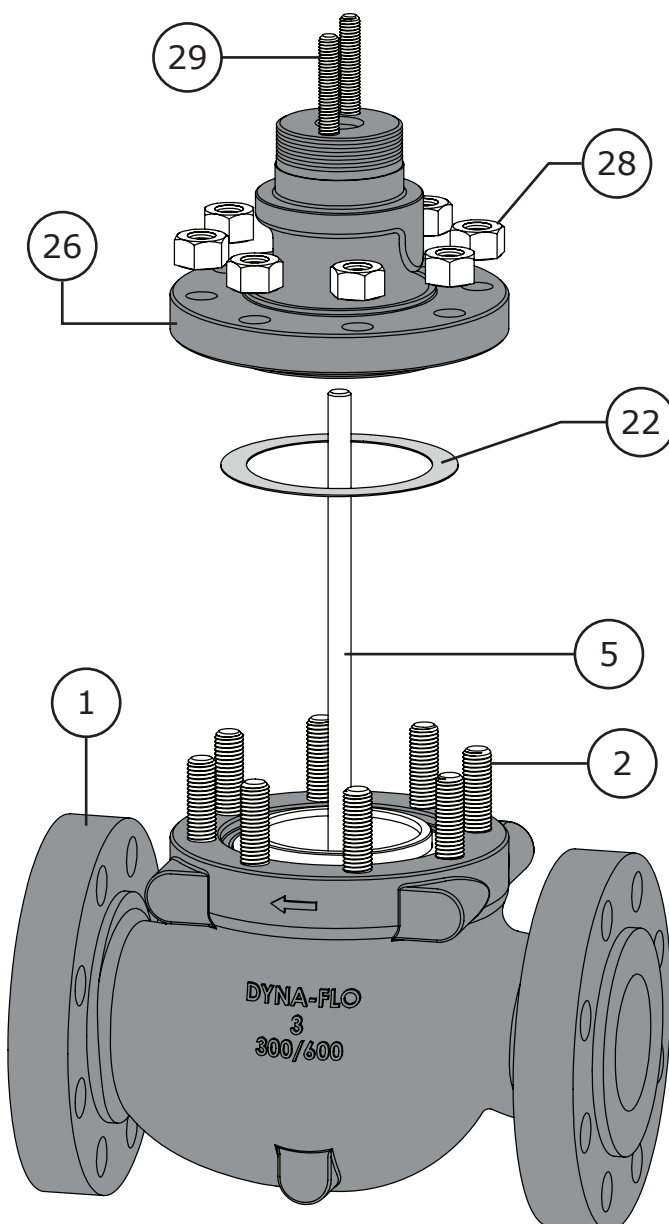

Figure 8 Bonnet Removal (Steps 3 - 4)
- 3** If no process fluid or gas escapes from the body-to-bonnet joint proceed by completely removing the bonnet nuts (Key 28). Refer to Figure 8.